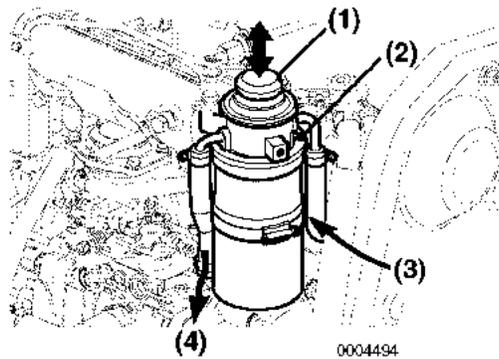

Figure 6-82
3. Loosen the air bleed screw (Figure 6-82, (2)) two to three turns.
4. Push up and down on the priming pump (Figure 6-82, (1)) to release air out of the air bleed screw.